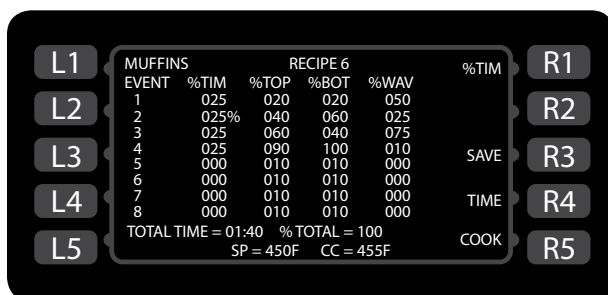

Figure 30: Food Item Edit Screen
6. From the “Recipe Edit” screen (Figure 30, below), edit the food group name: